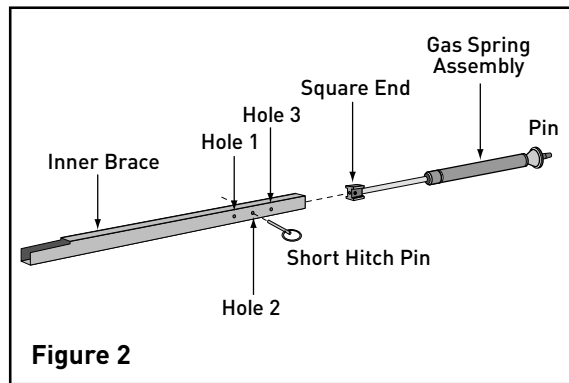
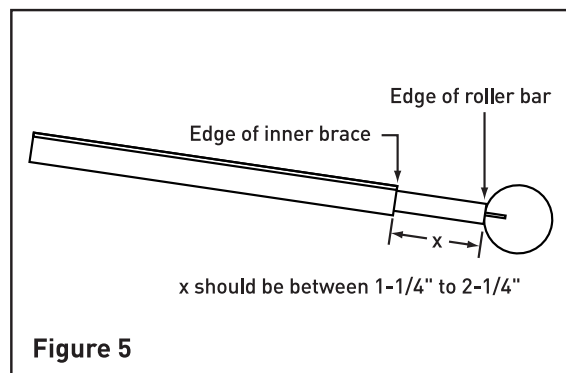

Figure 2
Figure 5
Step 7. Insert the gas spring assembly into the end of the inner brace as shown in figure 2. Position the square end of the gas spring assembly in line with Hole 2 on the inner brace. (see figure 2). Secure them together using the short hitch pin.
Step 11. After completing step 10, measure the distance between the edge of the inner brace and the edge of the roller bar (see Figure 5). If less than 1-1/4" simply remove the Center Brace from the awning and move the gas spring assembly to Hole 1 (see Figure 2), then reinstall the Center Brace. If it is more than 2-1/4" simply remove the Center Brace from the awning and move the gas spring assembly to Hole 3 (see Figure 2), then reinstall the Center Brace. This process will not change the distance between the edge of the inner brace and the edge of the roller bar, it will simply set the proper operating range of the gas spring.